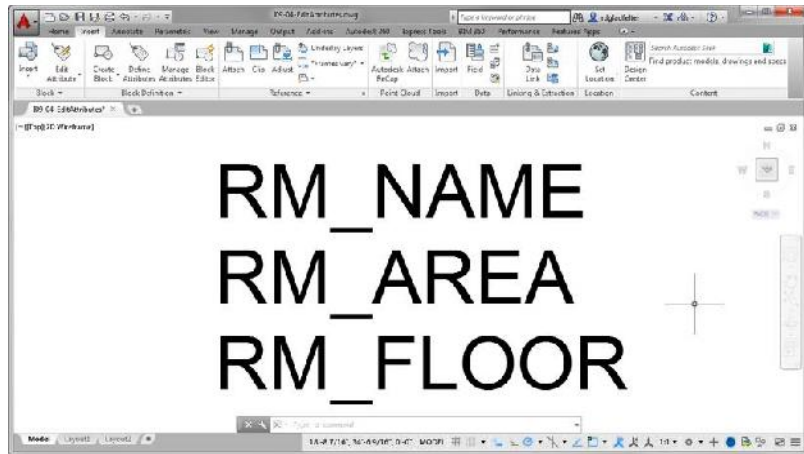

FIGURE 9.18: The floor plan with all three attribute definitions
22. Click OK. All three attribute definitions are now in the drawing (see Figure 9.18).